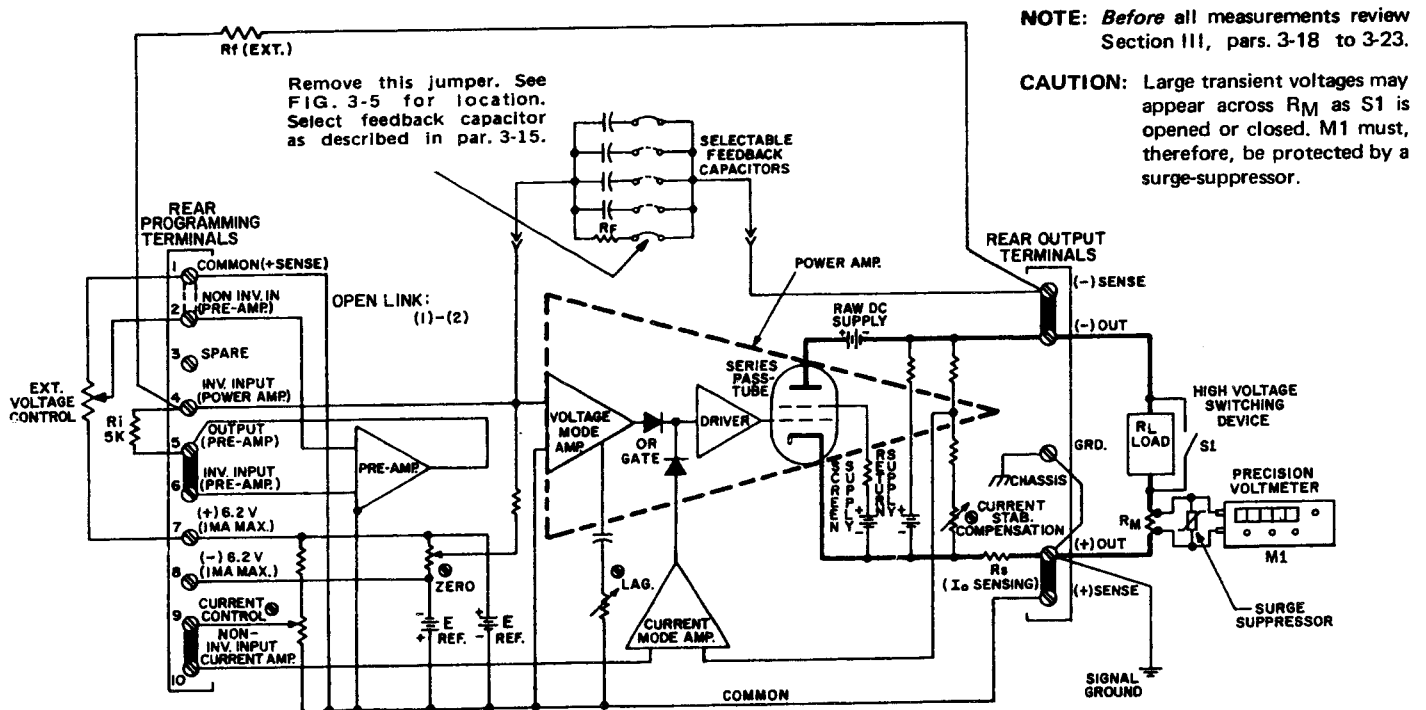

FIG. 3-6 TEST SET-UP FOR COMPENSATION ADJUSTMENT AND OUTPUT CURRENT STABILITY MEASUREMENTS.
3-22 The fixed feedback resistance of the OPS constitutes an internal shunt load in the current mode of operation. The shunt current thus flowing through the feedback resistance, if not compensated, produces an error proportional to the ratio of the feedback and the load resistance. The compensating circuit, provided in the OPS, is factory adjusted for best current stabilization with the built-in feedback resistor ( $R_f$ ). If other feedback resistors are used, the compensating circuit may be readjusted for optimum output current stabilization using the test set-up shown in FIG. 3-6 and following the procedure described below.
- 1) Set up the test circuit shown in FIG. 3-6. Select  $R_L$  as required and let  $R_M \approx 1$  k ohm. Follow the turn-on procedure as described in par. 3-13. Set required compliance (load voltage) with the EXT. VOLTAGE CONTROL.